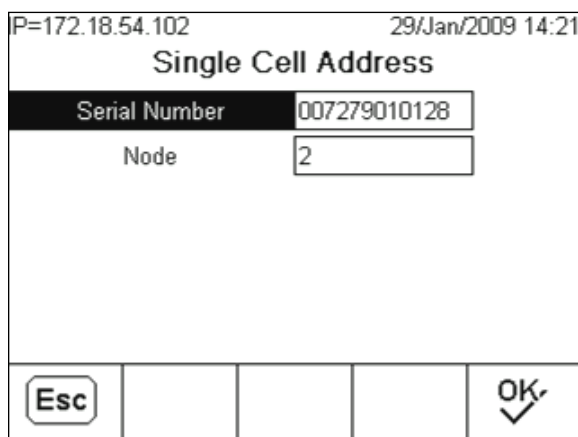

Figure 3-12: Single Cell Address Screen, PDX
3. After the IND780 detects the load cell, the cell's serial number and current node address are displayed (Figure 3-12). If no cell is found the display reads: